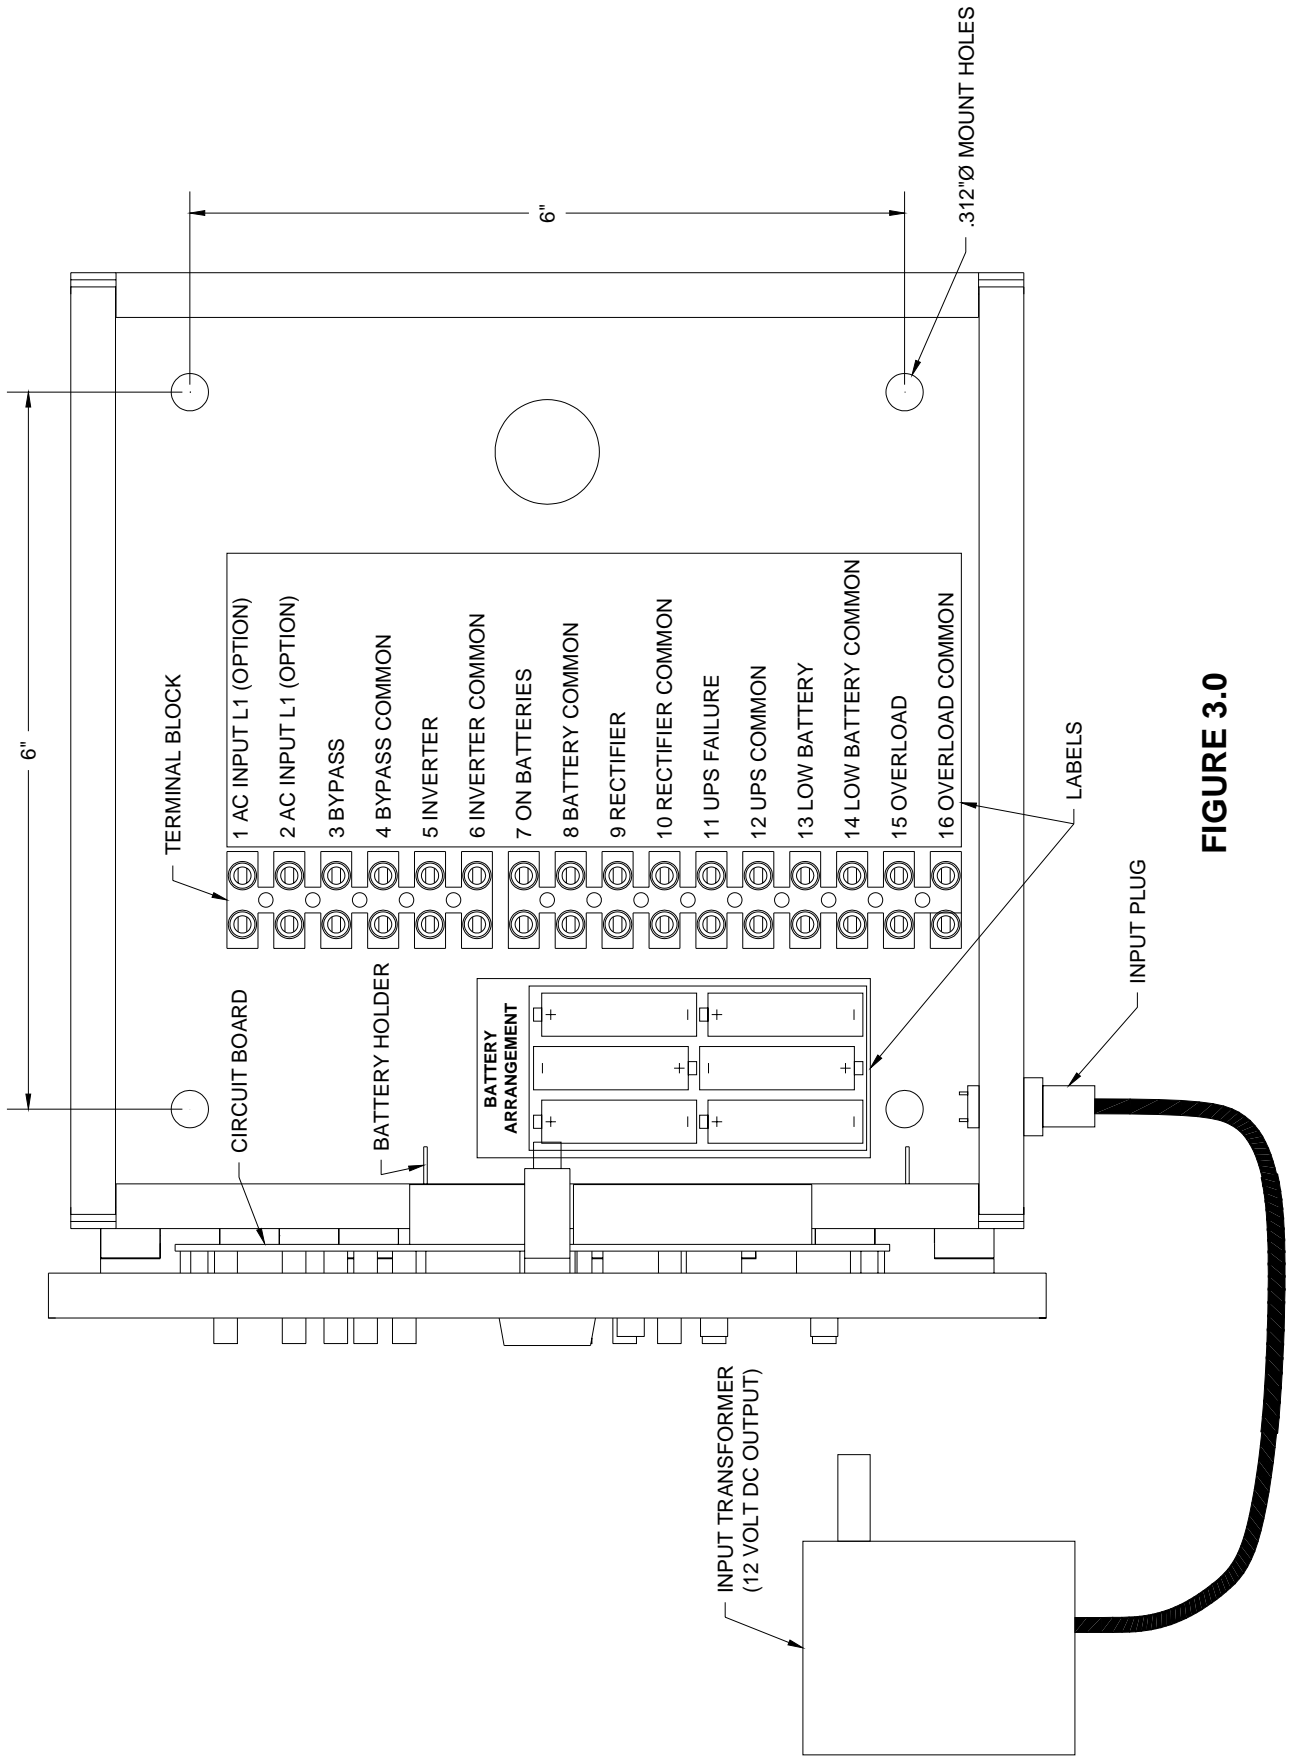

FIGURE 3.0
6. Referring to Figure 3.0, install (6) AA batteries (included). Batteries will provide about 8 hours of run time in the event of an AC power failure. Replace these batteries yearly for optimum performance.